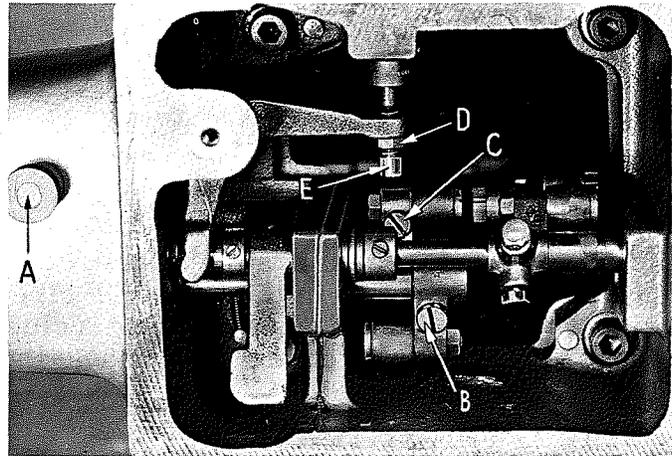
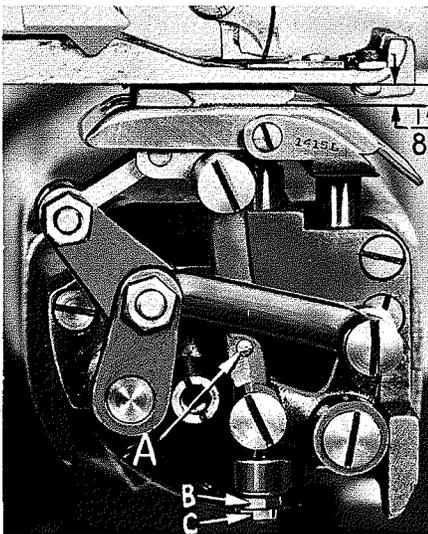
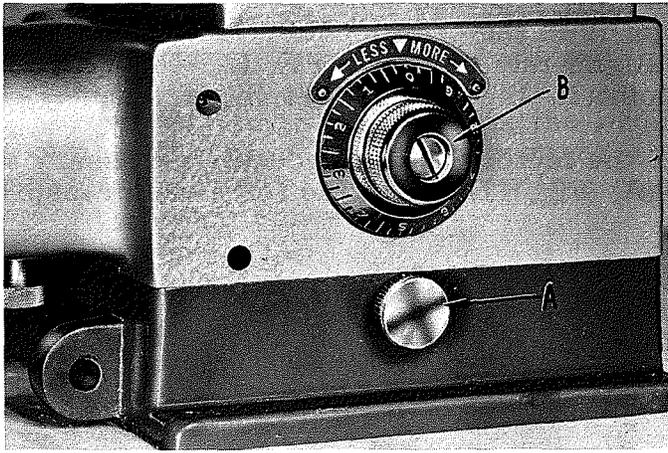
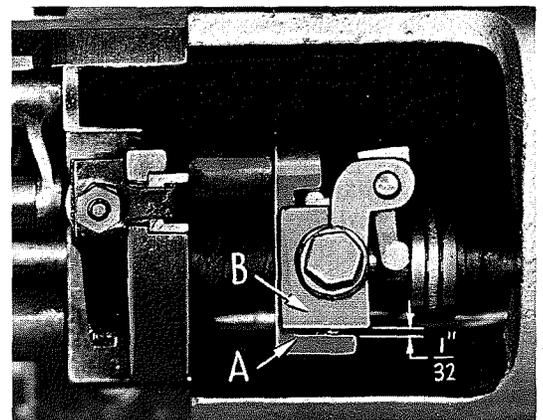

Fig. 11
Fig. 12
Fig. 13
Fig. 14
The feed plate pressure is adjusted at the factory. If it becomes necessary to change the pressure, turn knurled screw (A, Fig. 11) clockwise for more pressure and counterclockwise for less.
Turn the handwheel in operating direction until the feed point reaches its highest position and the feed plate reaches its lowest position. At this point, there should be $\frac{1}{8}$ inch space between the top of the feed plate and the bottom of the presser foot (Fig. 12). To obtain this adjustment, loosen the machine base locking screw (A, Fig. 13) and lay the machine on its back. Then, loosen screw (B, Fig. 11) and hold link (A, Fig. 12) so that the feed point is pressed up against the bottom of the presser foot. Turn the handwheel in operating direction until the feed point reaches its most forward position, and retighten screw (B, Fig. 11).
Turn the handwheel in operating direction until the feed point first touches the presser foot. At this point, the front edge of the feed point should be aligned with the front edge of the knurling on the feed plate. To make this adjustment, loosen screw (C, Fig. 11), and by means of link (A, Fig. 12), move the feed point forward or backward as required. Retighten screw (C, Fig. 11). If, in this adjustment, the feed point has to be moved an appreciable distance, repeat the adjustment "Setting The Feed Point Height" in the previous instructions.
is turned clockwise as far as it will go. Note that there are pins which stop the knob (B) after each complete revolution. The knob may be pulled out toward the operator to lift it over the stop. The knob can make three complete revolutions. To make the $\frac{1}{32}$ inch adjustment, turn the knob clockwise as far as it will go. Loosen locknut (D, Fig. 11) and turn screw (E) in the required direction. Retighten nut (D). Setting is correct when the needle, on its stroke, to the right, just clears
The height of the plunger is adjusted by turning the knob (B, Fig. 13) clockwise to raise the plunger and counterclockwise to lower it. To provide for the maximum plunger adjustment, there should be $\frac{1}{32}$ inch clearance between plunger crank (A, Fig. 14) and the plunger block (B) when the adjusting knob (B, Fig. 13)
the top of the plunger, with the adjusting knob in the maximum clockwise position. If after initial setting, further adjustment of height is necessary, it can be accomplished by turning nut (B, Fig. 12) and locknut (C) up or down as required. Check the adjustment so that the needle does not strike the plunger.